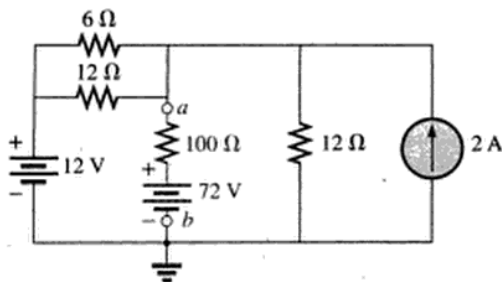

FIG. 9.139
- *29. a. Find the Norton equivalent circuit external to points a and b in Fig. 9.139.